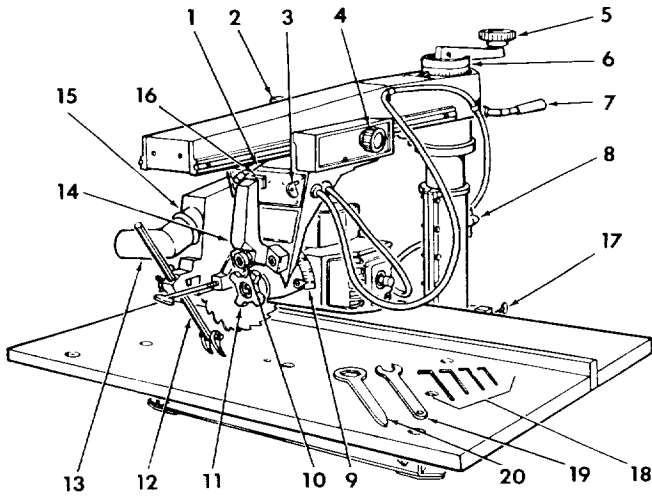

Figure 1
2. Raise the arm latch handle out of the detent, loosen the arm lock handle (figure 4) and loosen the carriage lock knob (4, figure 1). This will permit easy positioning of saw blade during leveling operations.